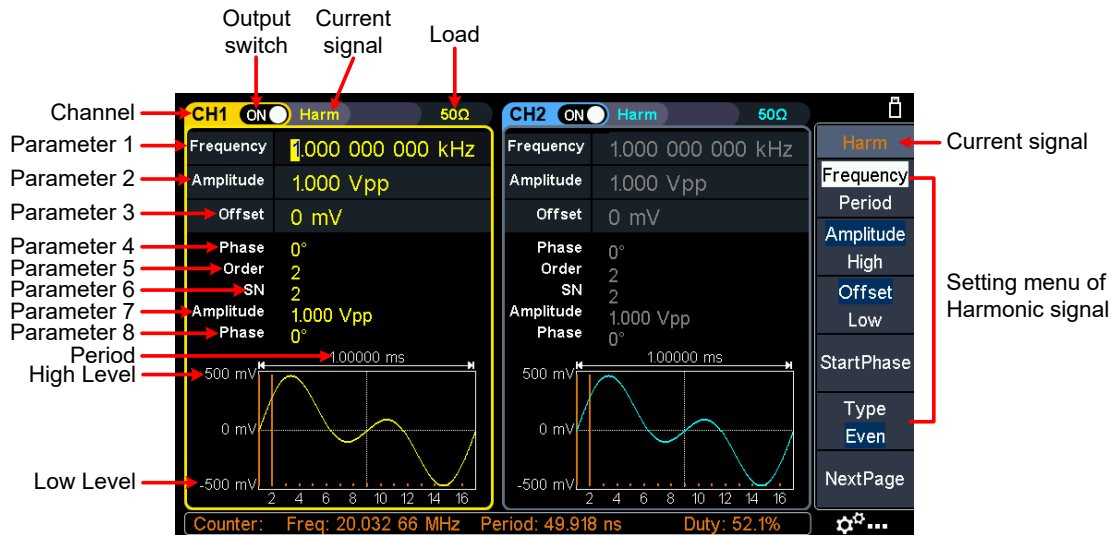

Figure 5-10: Harmonic wave user interface
next page, and press the **Order** softkey, the **Order** menu item is highlighted. In **Parameter 5** of Figure 5-10, a blinking cursor appears in the parameter value of order. Turn the **knob** to change the value directly, or use the **numeric keypad** to input the desired value, which can be set from 2 to 16.
- (1) **Select the sequence number of the harmonic:** Press the **SN** softkey, the **SN** menu item is highlighted. In **Parameter 6** of Figure 5-10, a blinking cursor appears in the parameter value of SN. Turn the **knob** to change the value directly, or use the **numeric keypad** to input the desired value.
- (2) **Set the amplitude of the selected SN:** Press the **Amplitude** softkey, the **Amplitude** menu item is highlighted. In **Parameter 7** of Figure 5-10, a blinking cursor appears in the parameter value of Amplitude. Turn the **knob** to change the value directly, or use the **numeric keypad** to input the desired value and choose the unit.
- (2) **Set the phase for the selected SN:** Press the **Phase** softkey, the **Phase** menu item is highlighted. In **Parameter 8** of Figure 5-10, a blinking cursor appears in the parameter value of Phase. Turn the **knob** to change the value directly, or use the **numeric keypad** to input the desired value and choose the unit.